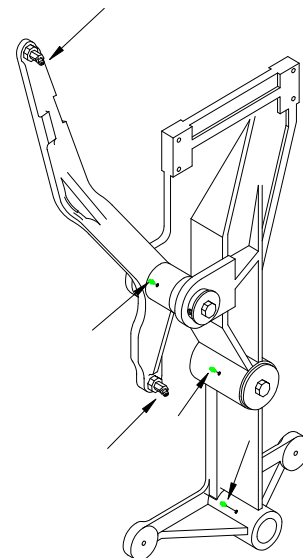

FIGURE 1
THERE ARE (5) GREASE FITTINGS LOCATED ON THE ROCKER ARM AND DIVIDER FRAME, (FIG. 1). THESE FITTINGS SHOULD BE LUBRICATED ONCE A WEEK FOR OPTIMUM BEARING LIFE.